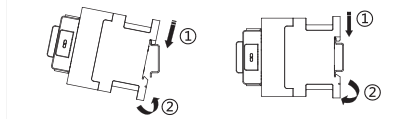

Fig. 2 HDCX-09-38 DC Installation and disassembly methods
- The contactors are available in both screw and DIN rail mounting. HDCX-09-38 DC can be installed with 35mm DIN rail. Before installation, check whether the rated voltage and frequency of the coil are consistent with the control power supply. Do not use when the contactor is damaged or not securely assembled. Installation and disassembly methods are shown in Figure 2.